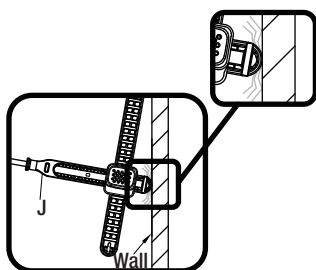

Fig 1
- If the horizontal rod (J) is too long, as shown in Fig 1, the length can be adjusted.
- Remove the clip (N) from the horizontal rod (J). Slide the plastic portion of the rod to adjust to the desired length. The excess length (1) can be removed by snapping off with pliers at the perforated segment, or cut off with a saw.